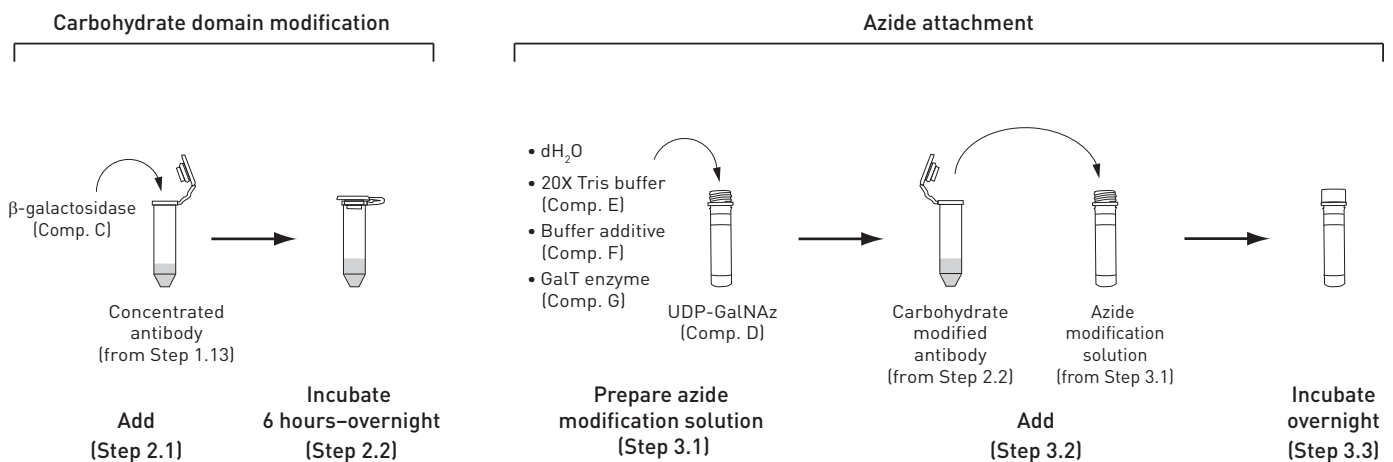

Figure 4 Modification of antibody carbohydrate domain and azide attachment
2.1 Add 100 μL of β -galactosidase (Component C) to the antibody collected in Step 1.13, as shown in Figure 4.
- 3.1 Prepare the azide modification solution by adding the following components to the tube containing UDP-GalNAz (Component D), as shown in Figure 4: